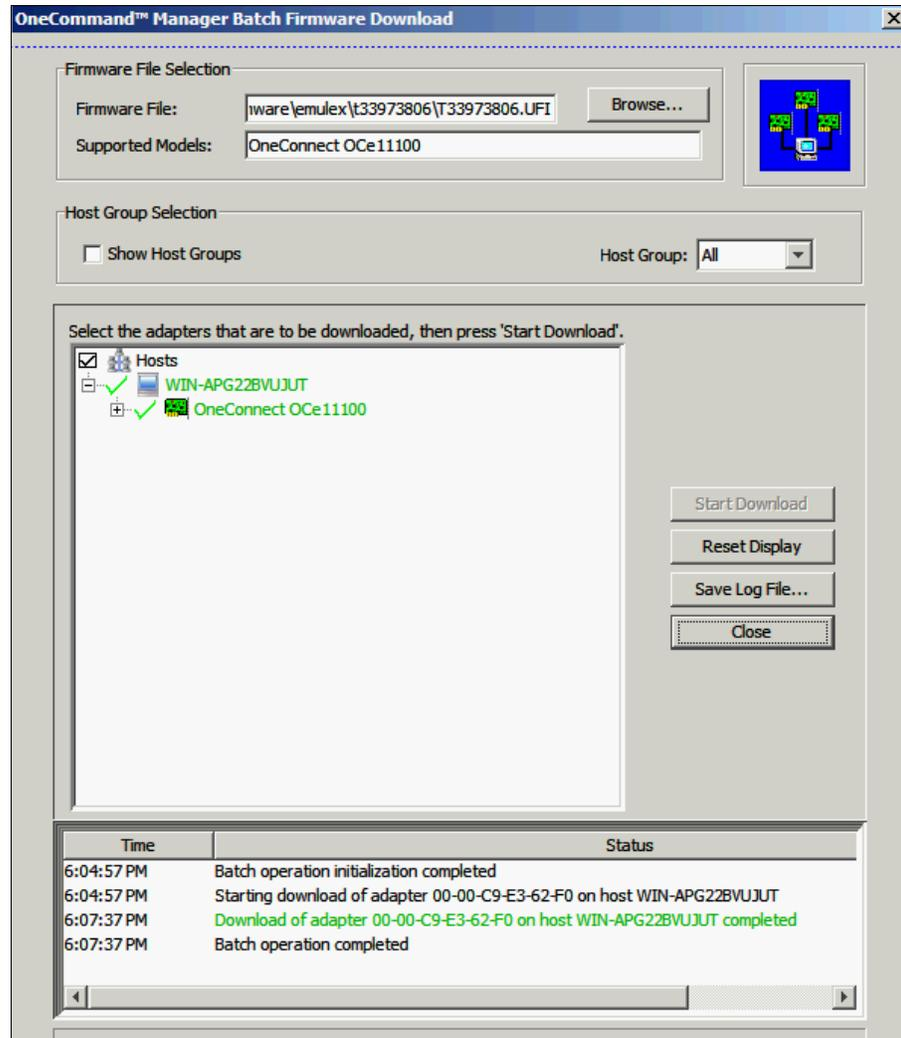

Figure 10-131 Firmware download file complete
- Again in the OneCommand Manager Batch Firmware Download window (Figure 10-131), click **Close**.